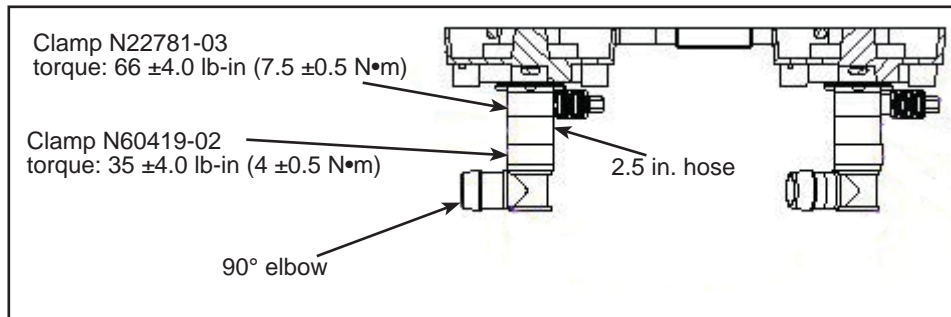

Figure 7 - Air Dryers Hardware Installation
- 1.15. Install the two 2.5 inches hoses N74649, the two 90° elbows N72896-06, the two clamps N60419-02 and the two clamps N22781-03 on the dryers. DO NOT torque those clamps at this step. See Figure 7.